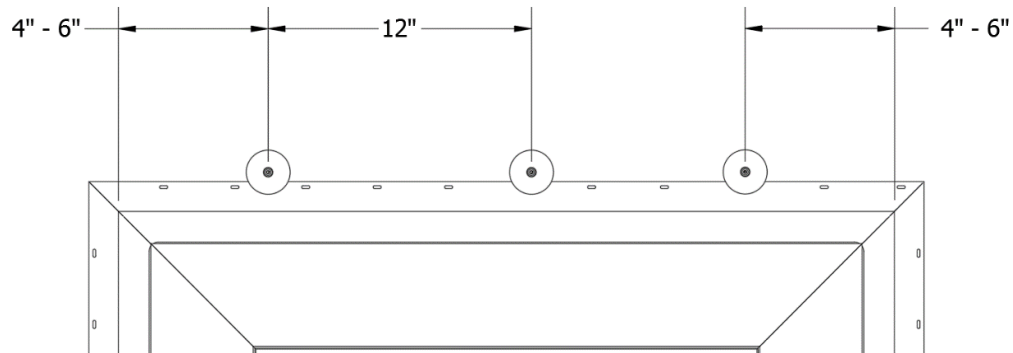

Figure 24: Head Washer Fastening
- I) Place fender washers beginning 4"-8" from the welded corners, then 12" on center across the remaining span of the nail flange. See figure 24.